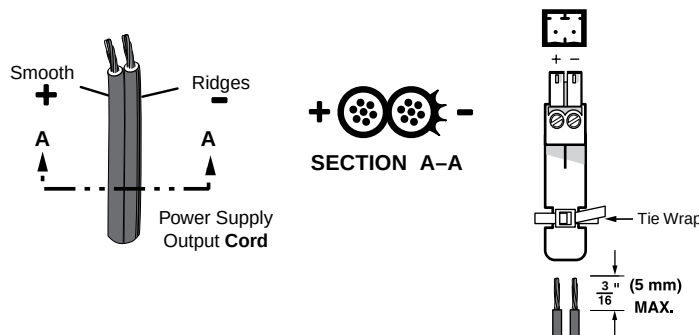

Figure 5. Power Connector Wiring
Figure 5 shows how to wire the connector. Use the supplied tie-wrap to strap the power cord to the extended tail of the connector.
- Power supply voltage polarity is critical. Incorrect voltage polarity can damage the power supply and the unit. The ridges on the side of the cord (see figure 5) identify the power cord negative lead.